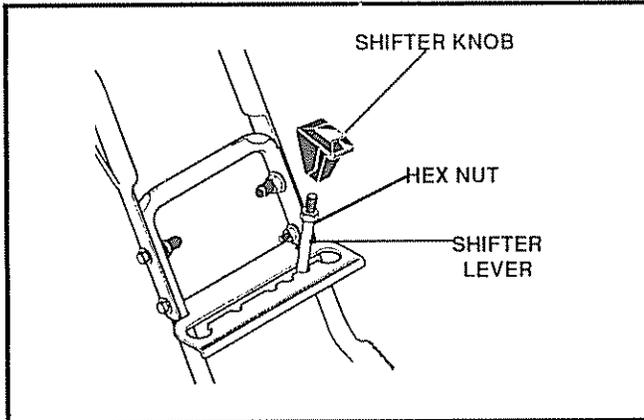

FIG. 6
- Thread the shifter lever knob onto the threaded end of the shifter lever until it is snug against the hex nut and the lip is pointed toward the engine. Tighten the hex nut against the bottom of the shift lever knob (See Fig 6)